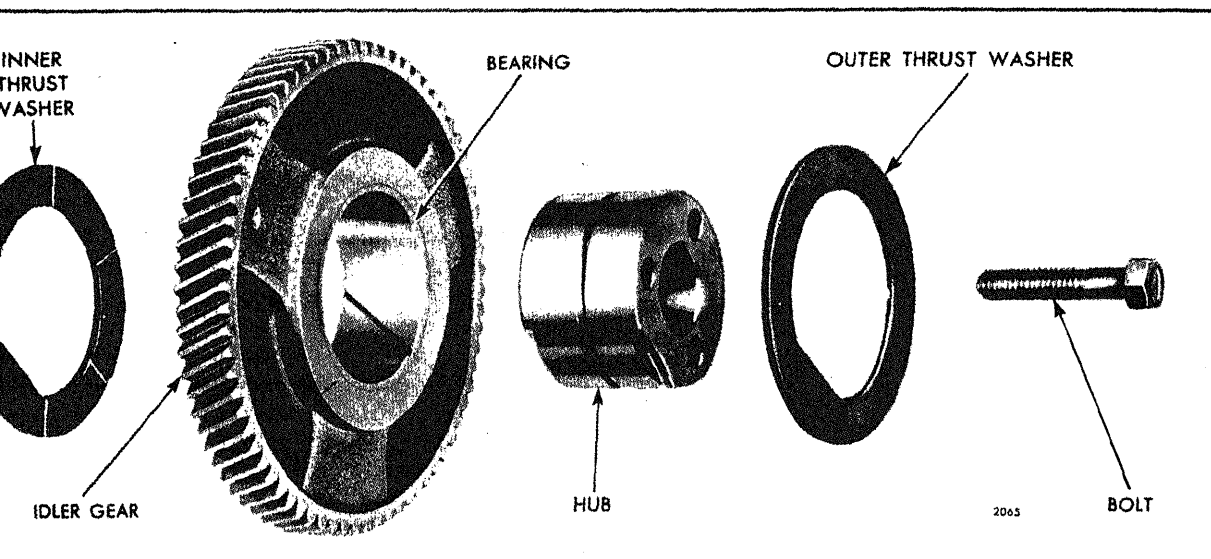

Fig. 3 - Idler Gear Details and Relative Location of Parts
1. Remove the idler gear outer thrust washer from the idler gear hub (Fig. 3).